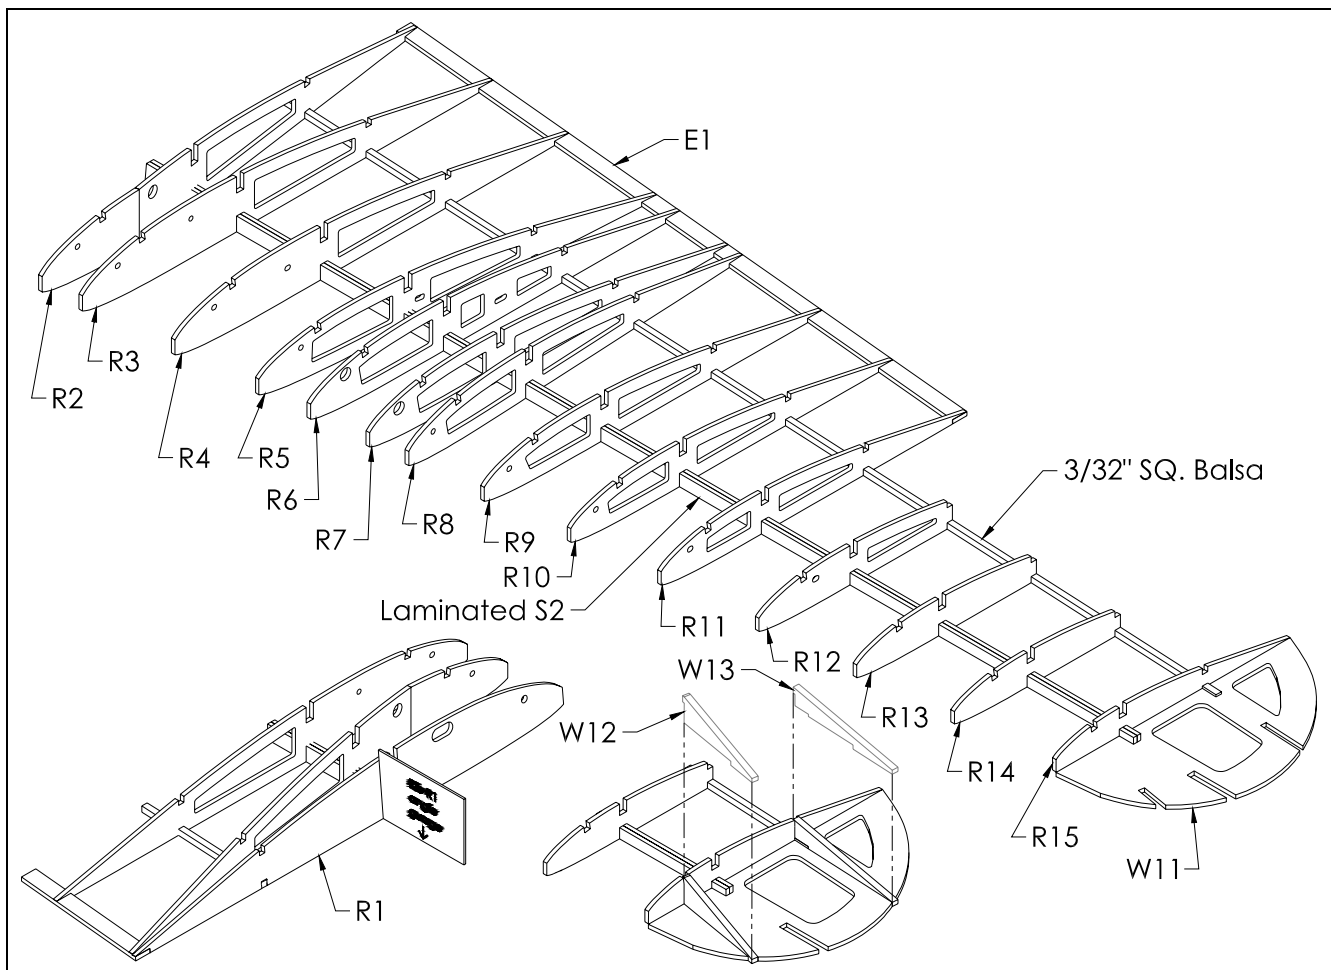

Figure 15
- ❑ Glue **R1** to the laminated **S2**, **3/32" SQ. Balsa**, and **E1** making sure it is tilted to the angle created with the use of the “**Rib R1 angle gauge**” shown on the plans and illustrated in Figure 15.